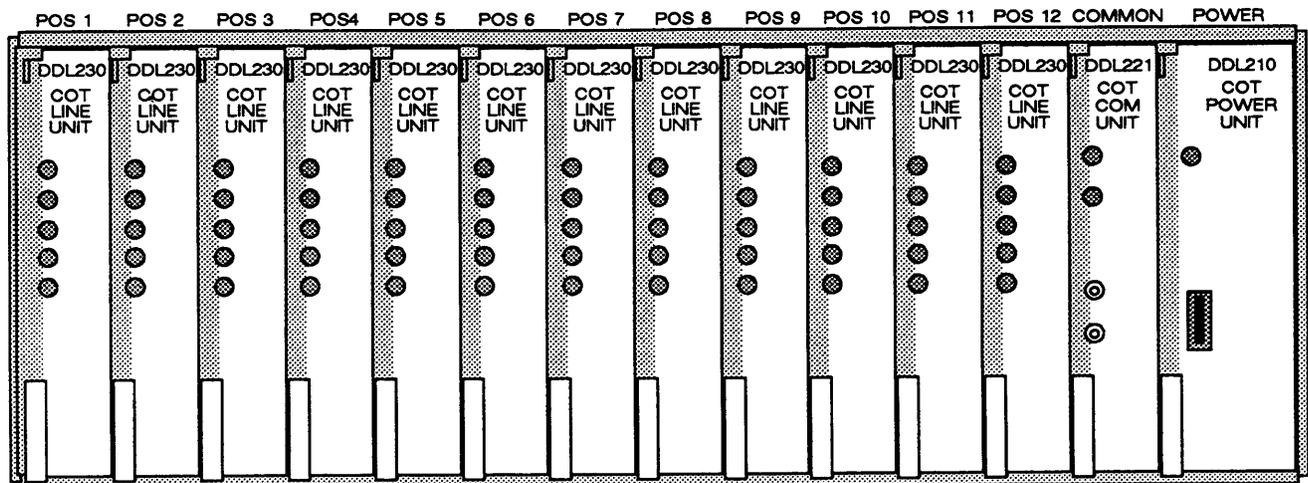

Figure 7. Fully Equipped DDL201 COT 23-inch Shelf
4.03 The Wescom DDL20X COT (Central Office Terminal) is a rack mountable 19-inch or 23-inch shelf unit located at the CO or CEV. Table 1 shows the equipment required and size of each available COT shelf. See Figure 7 for a fully equipped COT DDL201 shelf. 25-Pair Amphenol-type connectors are used for CO lines, Digital Subscriber Loop lines, and optional D-Channel connections.